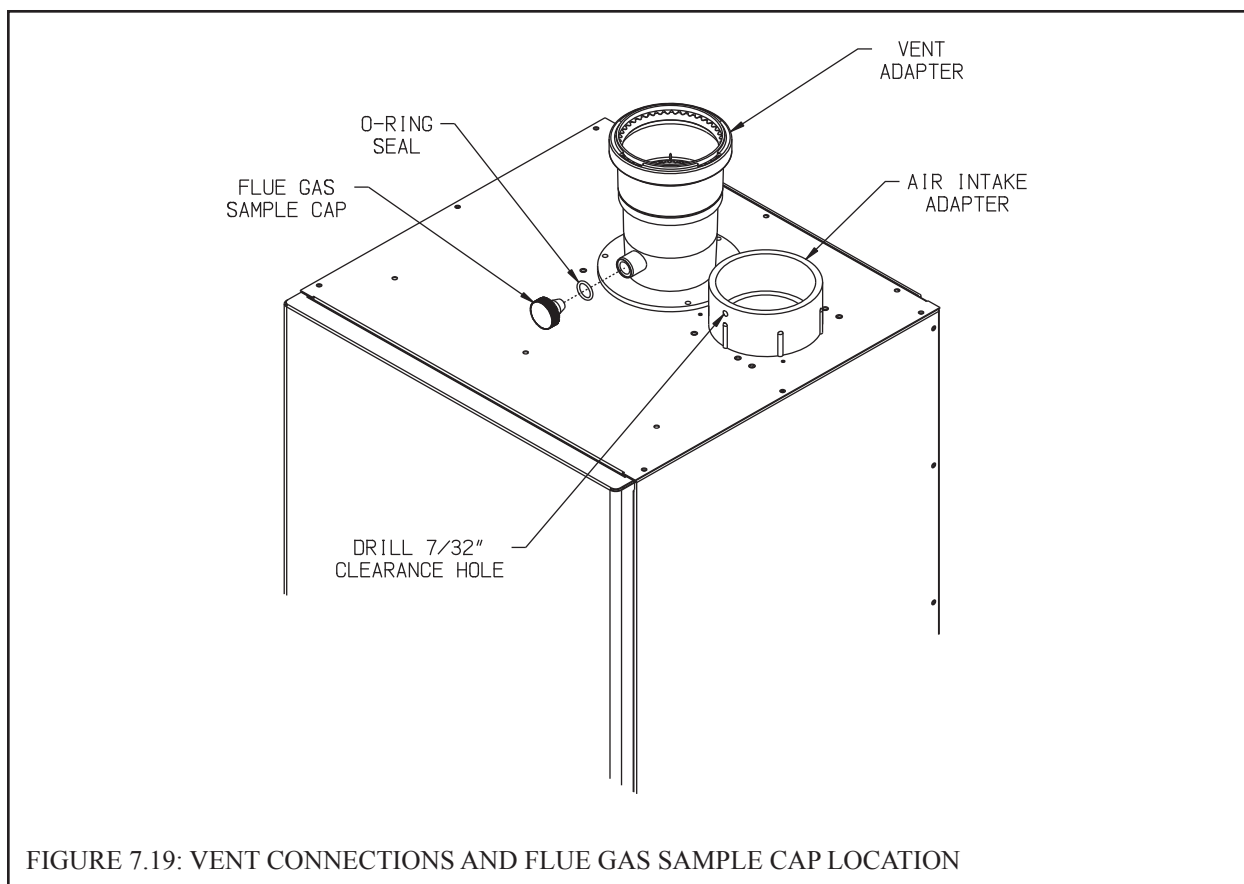

FIGURE 7.19: VENT CONNECTIONS AND FLUE GAS SAMPLE CAP LOCATION
- Never leave the boiler in operation without the gas sample cap in place (Figure 7.19)
- a. The vent adaptor has two different inside diameters. The smaller, lower, inside diameter accepts 3" nominal PolyPro (Figure 7.19). A locking ring in the adaptor prevents the vent pipe from coming out of the adaptor once it is inserted. Lubricate the upper gasket in the vent adaptor with water and insert the first piece of 3" PolyPro into the adaptor until it bottoms out.